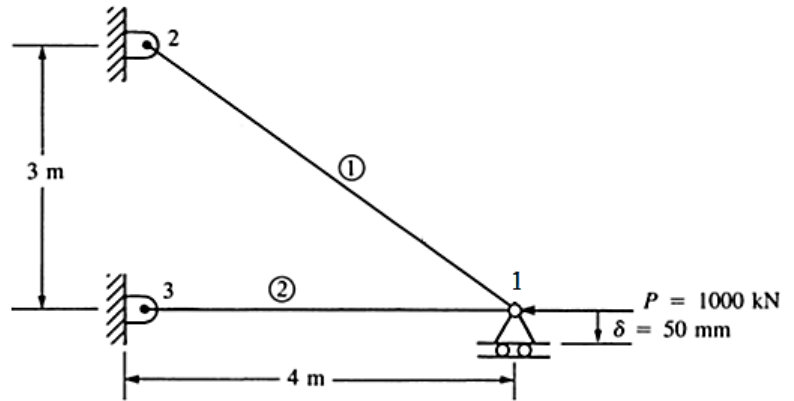

Fig. Q 4B
- 4B. For the two-bar truss shown in Fig. Q 4B, determine the displacement of node 1. A horizontal force of $P = 1000 \text{ kN}$ (acting towards left) is applied at node 1. Node 1 settles by an amount $\delta = 50 \text{ mm}$ (downward) in the vertical direction. Take the Young's modulus, $E = 210 \text{ GPa}$ and Area of cross section, $A = 600 \text{ mm}^2$ for each element.